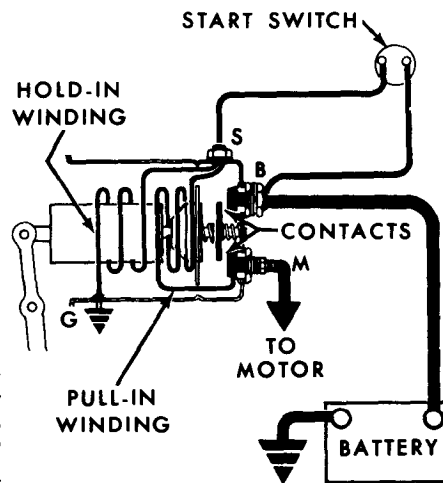
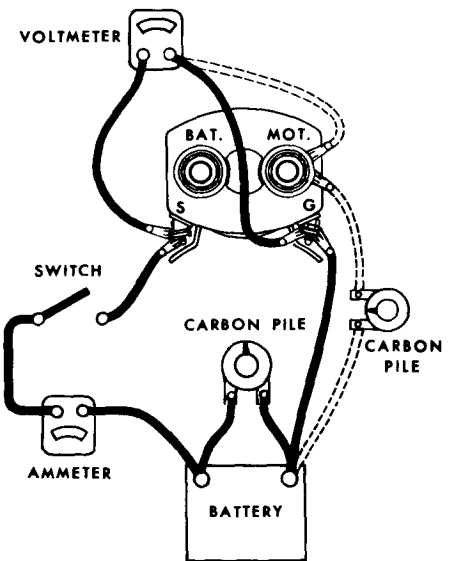
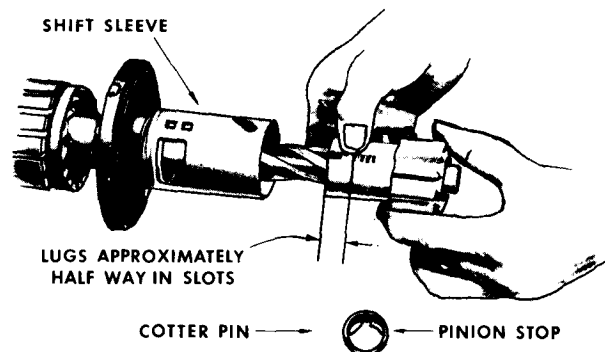

Figure 6—Basic solenoid circuit.
Figure 7—Circuit for checking hold-in and pull-in windings. (Note: Terminal locations may vary.)
Figure 8—Procedure of reassembling pinion, pinion guide, and spring in Dyer drive assembly.
D. Solenoid—A basic solenoid circuit is shown in Figure 6. Solenoids may differ in appearance, but can be checked electrically by connecting a battery of the specified voltage, a switch, and an ammeter to the two solenoid windings. With all leads disconnected from the solenoid, make test connections as shown to the solenoid switch (S or SW) terminal and to ground (G), or to the second switch terminal, if present, to check the hold-in winding (Fig. 7). Use the carbon pile across the battery to decrease the battery voltage to the value specified in Service Bulletins 1S-180, 1S-186, or 1S-187, and compare the ammeter reading with specifications. A high reading indicates a shorted or grounded hold-in winding, and a low reading excessive resistance. To check the pull-in winding connect to the solenoid switch terminal (S or SW), and to the solenoid motor (M or MOT) terminal. NOTE: If needed to reduce the voltage to the specified value, connect the carbon pile between the battery and "M" terminal as shown in dashed red lines instead of across the battery as shown in solid red lines. If not needed, connect a jumper directly from the battery to the "M" terminal as shown in dashed red lines. CAUTION: To prevent overheating, do not leave the pull-in winding energized more than 15 seconds. The current draw will decrease as the winding temperature increases.
3. The pinion guide, spring, and pinion must be replaced as an assembly as shown in Figure 8. IMPORTANT: If the pinion guide has an identifying letter "T" stamped on the side, the pinion guide must be assembled with the tangs or lugs **away from** the pinion.
A typical circuit is shown in Figure 6. The motor shown has a built-in thermostat to protect against damage due to over-cranking for excessively long periods of time. Thermostat components separated from the field coils and motor frame are shown in Figure 7. Also a motor with harness disconnected from the thermostat is shown in Figure 8.
When the start switch is closed, battery current flows through the magnetic switch winding and the thermostat to ground, as shown in Figure 6. The magnetic switch closes, connecting the motor solenoid "S" terminal to the battery.
A circuit without the motor thermostat would be the same as Figure 6, except the magnetic switch winding terminal would be grounded directly to the point noted in Figure 6, without passing through a thermostat.
To check the thermostat for continuity, detach wiring harness connector and connect an **ohmmeter** to the two thermostat terminals on the motor. (Fig. 8). The ohmmeter should read zero. If not, thermostat is open circuit. **DO NOT** check thermostat when hot, since it is supposed to be open-circuit above certain temperatures.